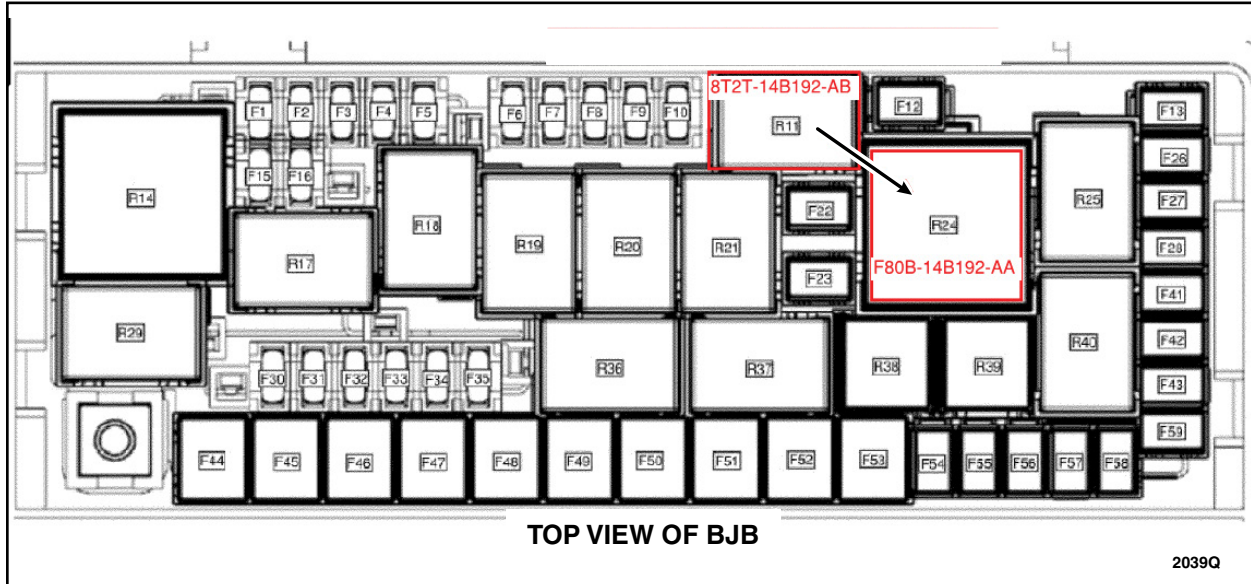
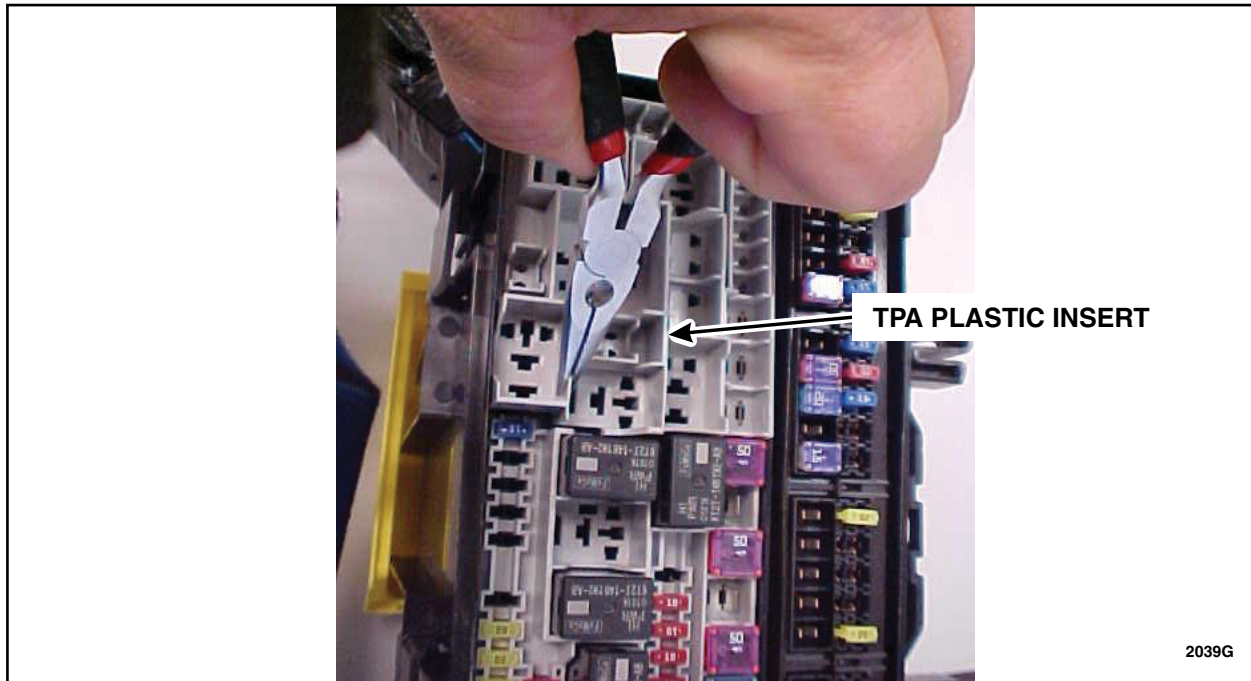

FIGURE 1
FIGURE 6
**NOTE:** The high speed cooling fan relay (R11) will be relocated to the (R24) position in the Battery Junction Box (BJB) as shown in Figures 1 and 2.
- Using a pair of needle nose pliers, pull straight up to remove the Terminal Position Assurance (TPA) plastic insert from the BJB as shown in Figure 6.
12. Reinstall the TPA plastic lock by aligning all of the male terminals in the BJB with the TPA lock and gently push straight down. As the TPA is installed, it can be felt as it passes by the lobes and properly seats. See Figure 6.
- Inspect all four (4) corners of the TPA insert to ensure it is flush with the BJB housing.
13. Install the *new* larger high speed cooling fan relay into the new location, R24. See Figures 1 and 16.